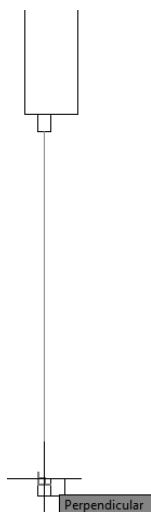

FIGURE 4.70: Using the Perpendicular osnap to set the endpoint of the line
- c. When you get near the horizontal line that represents both the inside edge of one frame section and the back edge of the frame section next to it, the colored Perpendicular osnap marker will appear on that line, as shown in Figure 4.70. When it does, select that point.